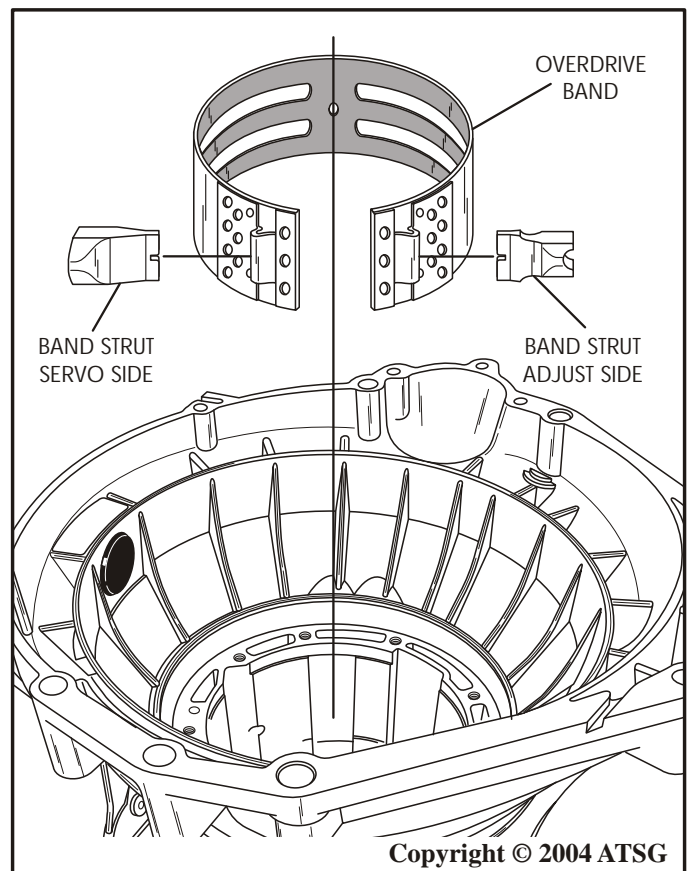

Figure 38
32. Remove the overdrive band assembly and both band struts, as shown in Figure 38.
**Note: Notice the difference in the band struts and which side they are located, as shown in Figure 38.**